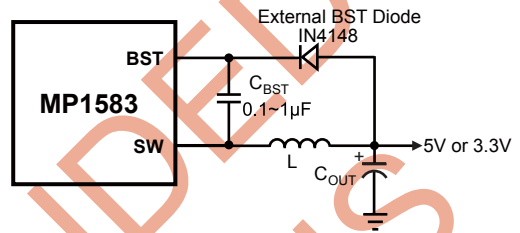

Figure 4—Add Optional External Bootstrap Diode to Enhance Efficiency
**Table 3—Compensation Values for Typical Output Voltage/Capacitor Combinations (Please reference Fig. 3 and Fig. 4)**
In these cases, an external BST diode is recommended from the output of the voltage regulator to BST pin, as shown in Fig.4